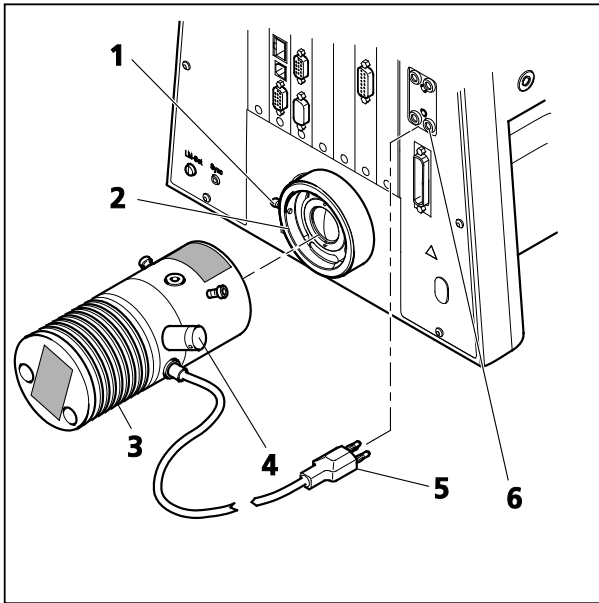

Fig. 4 Attaching the VIS-LED to the Axio Imager transmitted-light mount
- Loosen the clamping screw (Fig. 4/1) on the transmitted-light mount (Fig. 4/2) or the reflected-light mount and remove the halogen lamp.
- Push the VIS-LED (Fig. 4/3) with its dovetail into the mount (Fig. 4/2) and fix it with the clamping screw (Fig. 4/1) using the ball-headed screwdriver SW 3.
- Connect the 3-pole lamp plug (Fig. 4/5) to the lower 3-pole 12 V/100 W port (Fig. 4/6) for transmitted light (TL) or the upper port for reflected light on the rear of the device or on an external power supply unit.
- If you use a coded Axio Imager stand, turn the reflected-/transmitted-light change-over switch to the transmitted-light position (TL). If you use a motorized stand, the reflected-/transmitted-light change-over is carried out over the touchscreen on the TFT display.